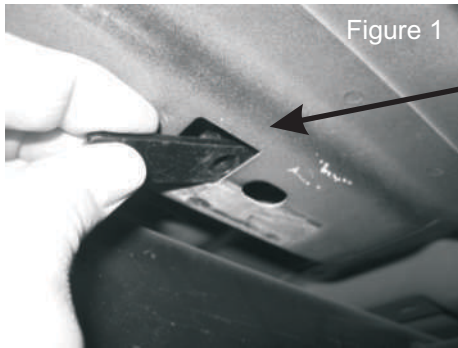

Figure 1
- Locate 1/2 x 1-3/4" Stud Plates. On the underside frame rail of the vehicle you will find a Square hole and a smaller 5/16" hole next to it. Place the stud plate up through the square hole and drop the stud down through the 5/16" hole and through the slot on the bracket. Hold the tab flat in place and attached a 5/16" flat washer and 5/16" Nylock nut See Fig 1. Hand tighten.